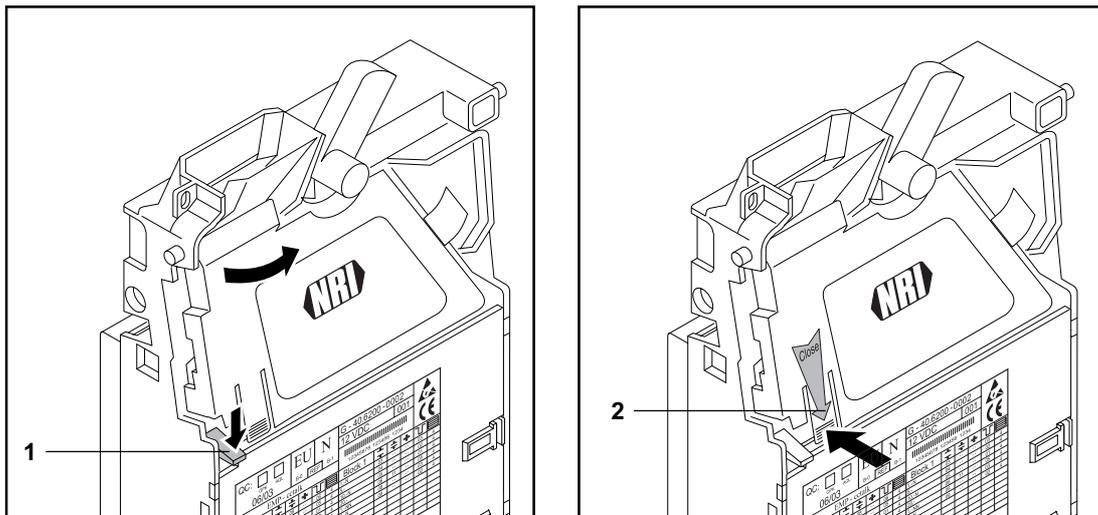

Fig. 4: Open up the coin validator flight deck and close
- 2 Press lever 1 downwards and open the coin validator (see Fig. 4).
- 4 Press "Close" arrow 2, so that the metal spring engages behind lever 1, in order to close the coin validator (see Fig. 4).